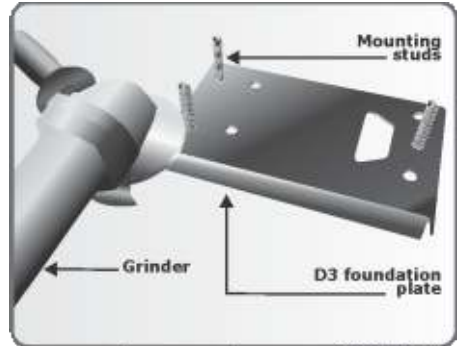

FIGURE 21.
If the **D2 Turbo** is being used to replace a D3 gate operator, refer to Figures 21 to 27.
1. Grind off the existing mounting studs from the D3 foundation plate as shown in Figure 21.